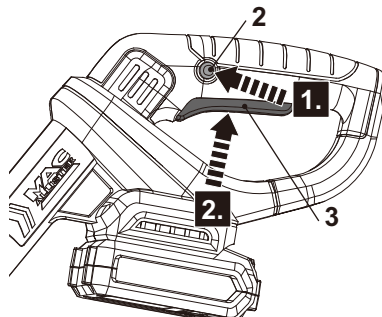

Fig. 14
1. Hold the product with one hand at the auxiliary handle (15) and with the other at the main handle (1).
2. Press the lock-off button (2) and hold it in position (Fig. 14, step 1).
3. Squeeze the on/off switch (3) to switch the product on (Fig. 14, step 2). Release the lock-off button afterwards.
4. Release the on/off switch (3) to switch the product off.